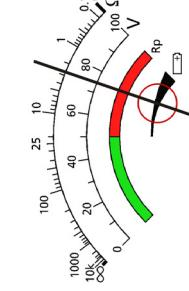

Figure 12: Analogue display indicating remaining battery life
3. The battery life will be indicated in the analogue display on the scale marked with the , as shown in Figure 12.